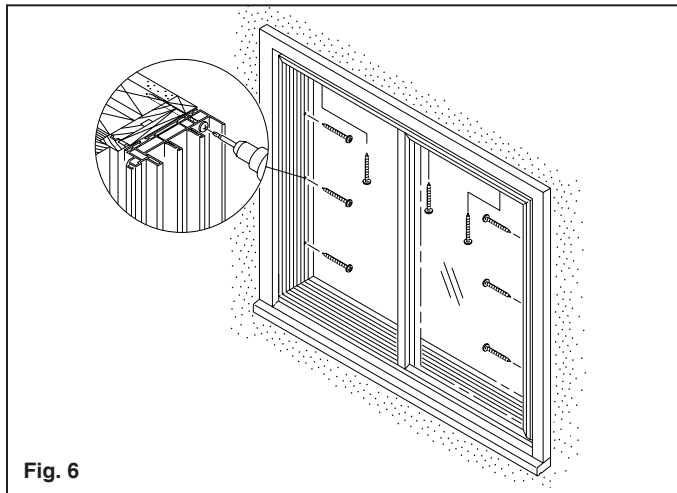

Fig. 6
B. Screw head and jambs into frame opening using #8 x 1 1/2" Phillips sheet metal screws. Screws must be long enough to secure new frame to existing wood frame. Screw through the last channel in the head and jambs closest to the interior of the room. See **Fig. 6**. Screws should be 18" apart on center with corner screws approximately 6" from end. Care should be taken not to over tighten screws, this would avoid warping. Leave a 1/4" gap at the head for deflection between the frames.